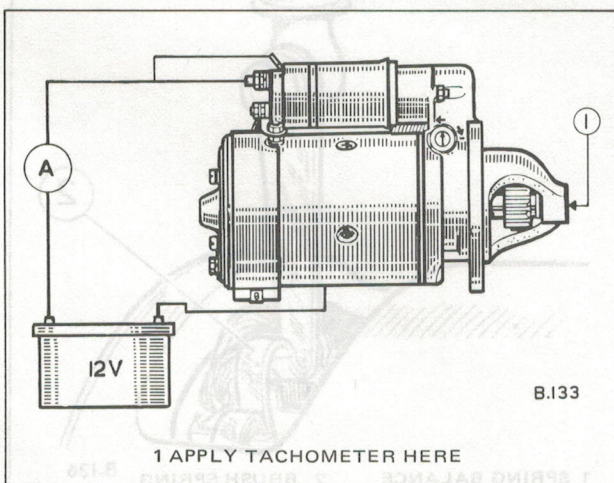

Fig. 1. Measuring light running current and speed
this connection make a short link to the Lucas terminal. Connect the remaining battery terminal to the yoke of the motor, see Fig. 1.
- (c) When refitting the commutator-end bracket, ensure that the fibre and steel thrust washers are fitted in the correct order beneath the moulded brake shoes, (see Fig. 1 Sub-section D131) then turn the armature shaft so that the cross peg engages correctly with the slots in the shoes.